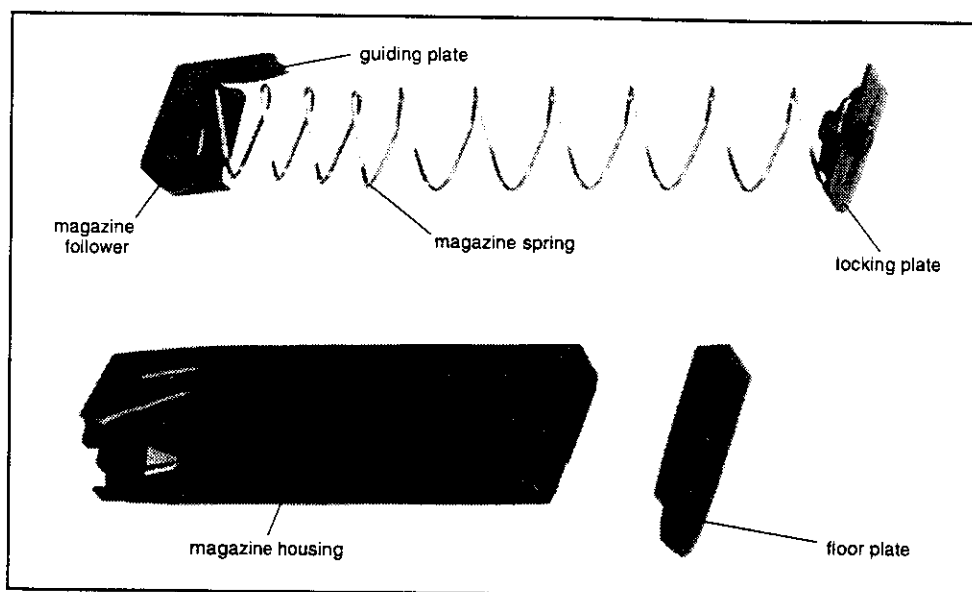

Figure 12
2. Insert the follower and the magazine spring into the magazine housing in the position depicted in Figure 12.